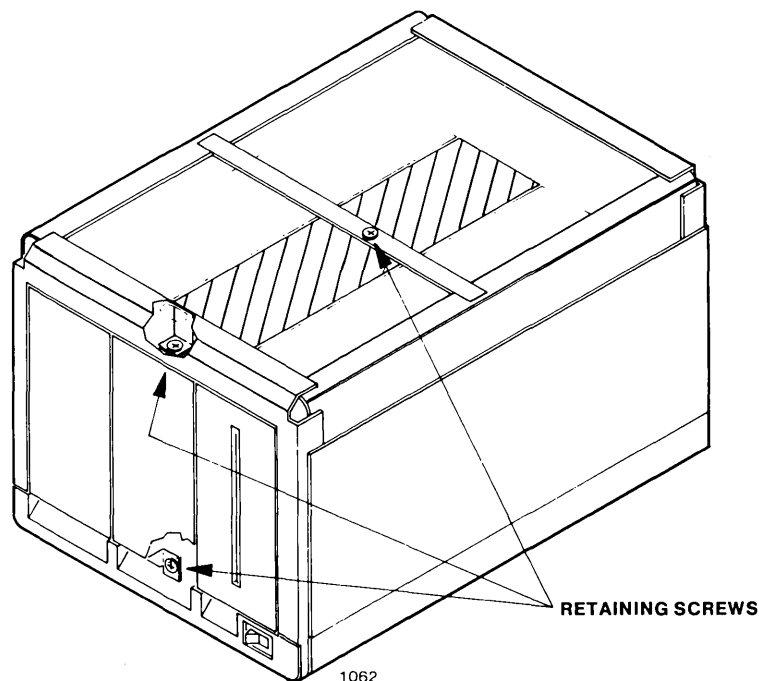

Figure 4-7. Winchester And Floppy Drive Retaining Screw Locations (Typical)
6. Remove the three screws (see Figure 4-7) securing the Winchester drive to the chassis. Two screws are accessed from the top of the chassis; the other is accessed from the front.
5. Remove the three screws (see Figure 4-7) securing the drive to the chassis. Two screws are accessed from the top of the chassis; the other is accessed from the front.
6. Remove the three screws securing the Winchester drive to the chassis. The screws are shown in Figure 4-7.